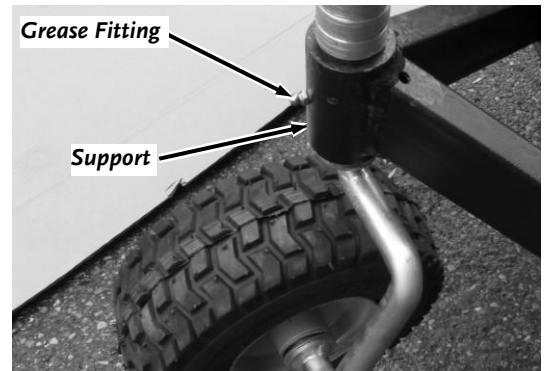

Figure 42
4. Wipe all dirt, etc., from the Wheel Support fitting with a clean cloth (**Figure 42**).